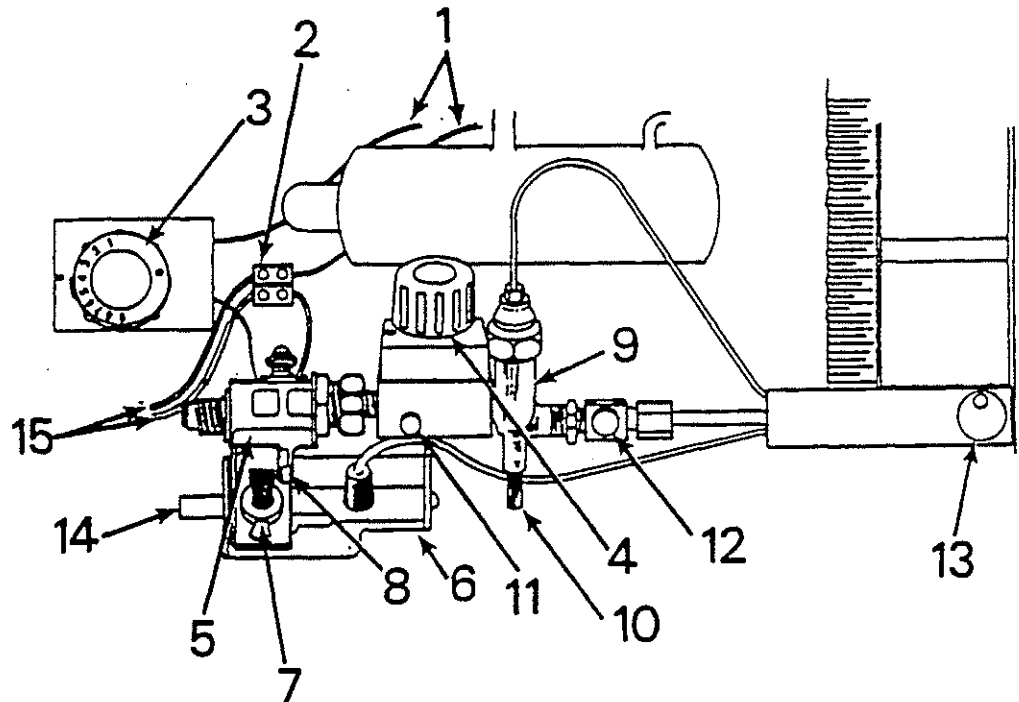

FIG. 8
Turn handle (8) of the gas valve (5) away from the back of the cabinet. (FIG. 8, Page 6)